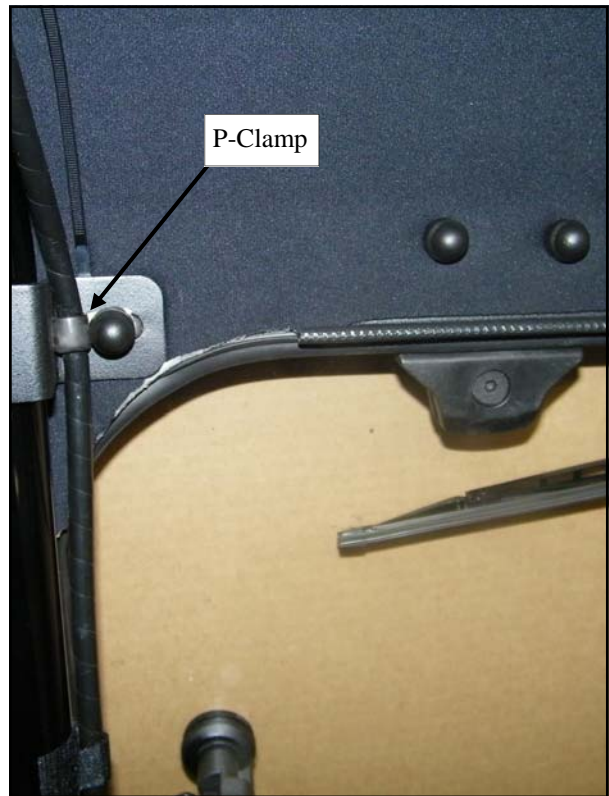

Fig. 1.4 (view from driver's seat)
1.4 Per fig. 1.4, route the wire harness over to the bolt near the top left corner of the windshield as shown and use one of the supplied P-Clamps to secure the wire harness.